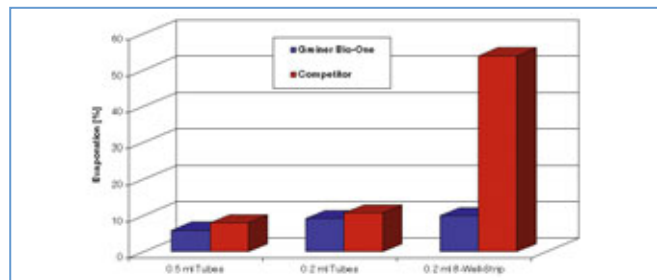

Figure 1: Evaporation in PCR tubes filled with H₂O measured according to the weight loss after 2 hours' incubation at 100 °C.
- Low evaporation rate in PCR (Fig. 1)